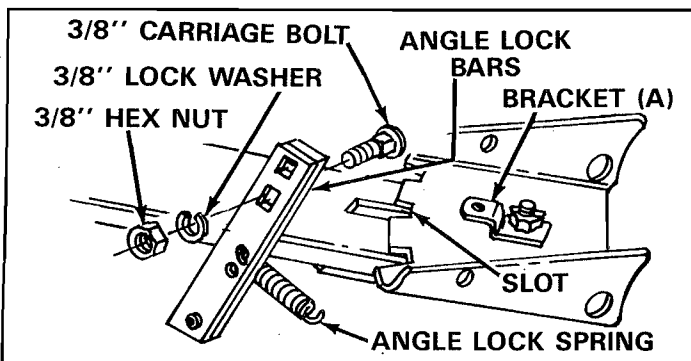

FIGURE 2
1. Assemble the two angle lock bars together as shown in figure 2, using one 3/8" x 1" carriage bolt, 3/8" lock washer and 3/8" hex nut. Do not tighten at this time.
2. Assemble angle lock spring through angle lock bars positioning end hook as shown. See figures 2 and 3.
3. Assemble hook of angle lock spring into hole of bracket (A). Pull lock bars up to extend spring just enough to allow assembly of angle lock bars down through slot in pivot bracket and channel. See figure 2 and 3.